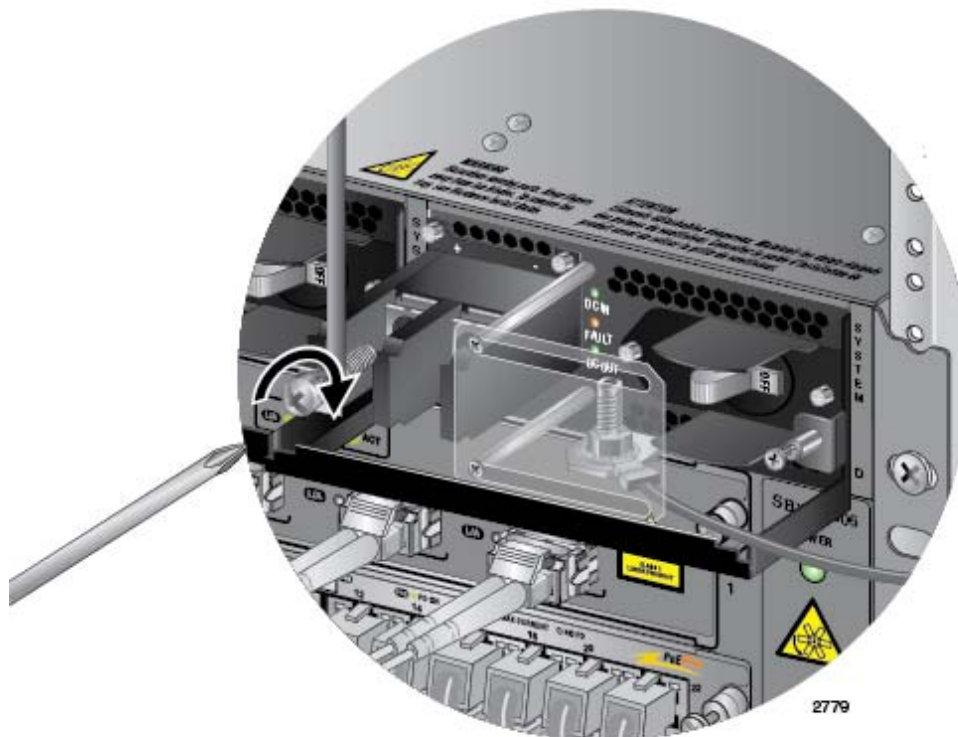

Figure 152. Connecting the Positive Wire
5. Wrap the positive lead wire clockwise around one of the terminal screws and secure the screw and wire to the positive terminal connection on the terminal block with a #3 Phillips-head screwdriver. The positive terminal is on the left. You may attach the wire to the terminal so that it extends either above or below the terminal block. Figure 152 on page 210 shows the wire above the terminal block. Allied Telesis recommends tightening the screw to 30 to 40 inch-lbs.